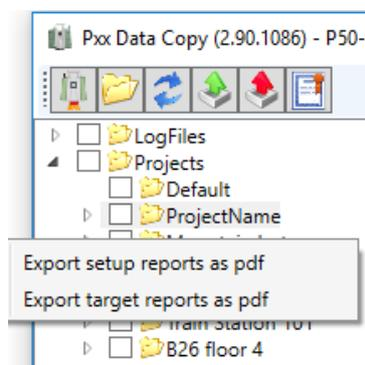

Figure 8: Export setup or target reports menu.
To export Target measurement reports or Setup reports to pdf document right click on a project, a station, a scanworld or an individual target/setup in *Content Frame (1)* and click *Export target/setup reports as pdf* in the right click export menu (Figure 8).